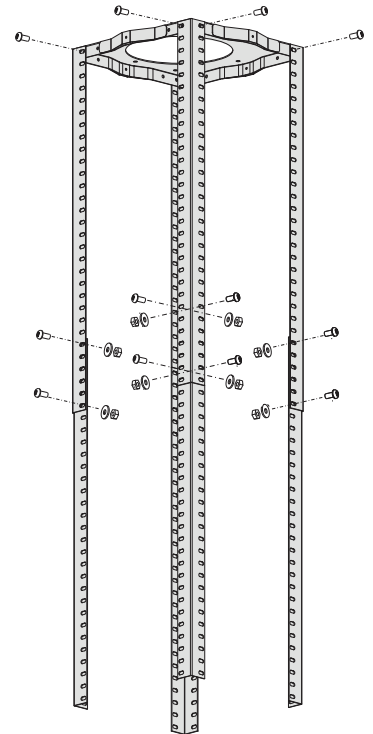

Figure 2
- Attach the 2 sections of the angle iron together for each corner using supplied 16 pieces M4 × 10 mm mounting screws with nuts and washers (see Figure 2).
- Use 8 pieces M4 × 10 mm mounting screws to attach the angle iron into the hanging board (see Figure 2).